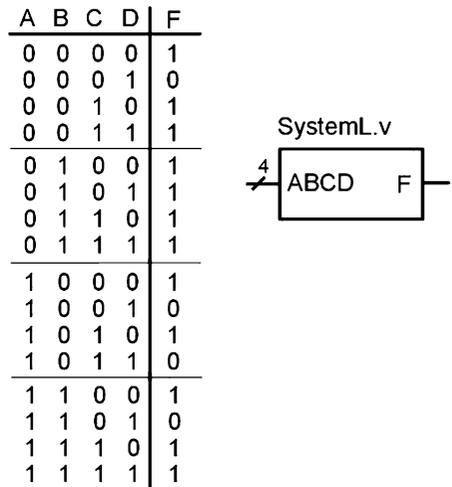

Fig. 5.4
- 5.2.7** Design a Verilog model to implement the behavior described by the 4-input truth table in Fig. 5.4. Use procedural assignment and an if-else statement. Declare the module to match the block diagram provided. Use the type wire for the inputs and type reg for the output. Hint: Notice that there are far more input codes producing $F = 1$ than producing $F = 0$. Can you use this to your advantage to make your if-else statement simpler?
- 5.2.8** Design a Verilog model to implement the behavior described by the 4-input truth table in Fig. 5.4. Use procedural assignment and a case statement. Declare the module to match the block diagram provided. Use the type wire for the inputs and type reg for the output.